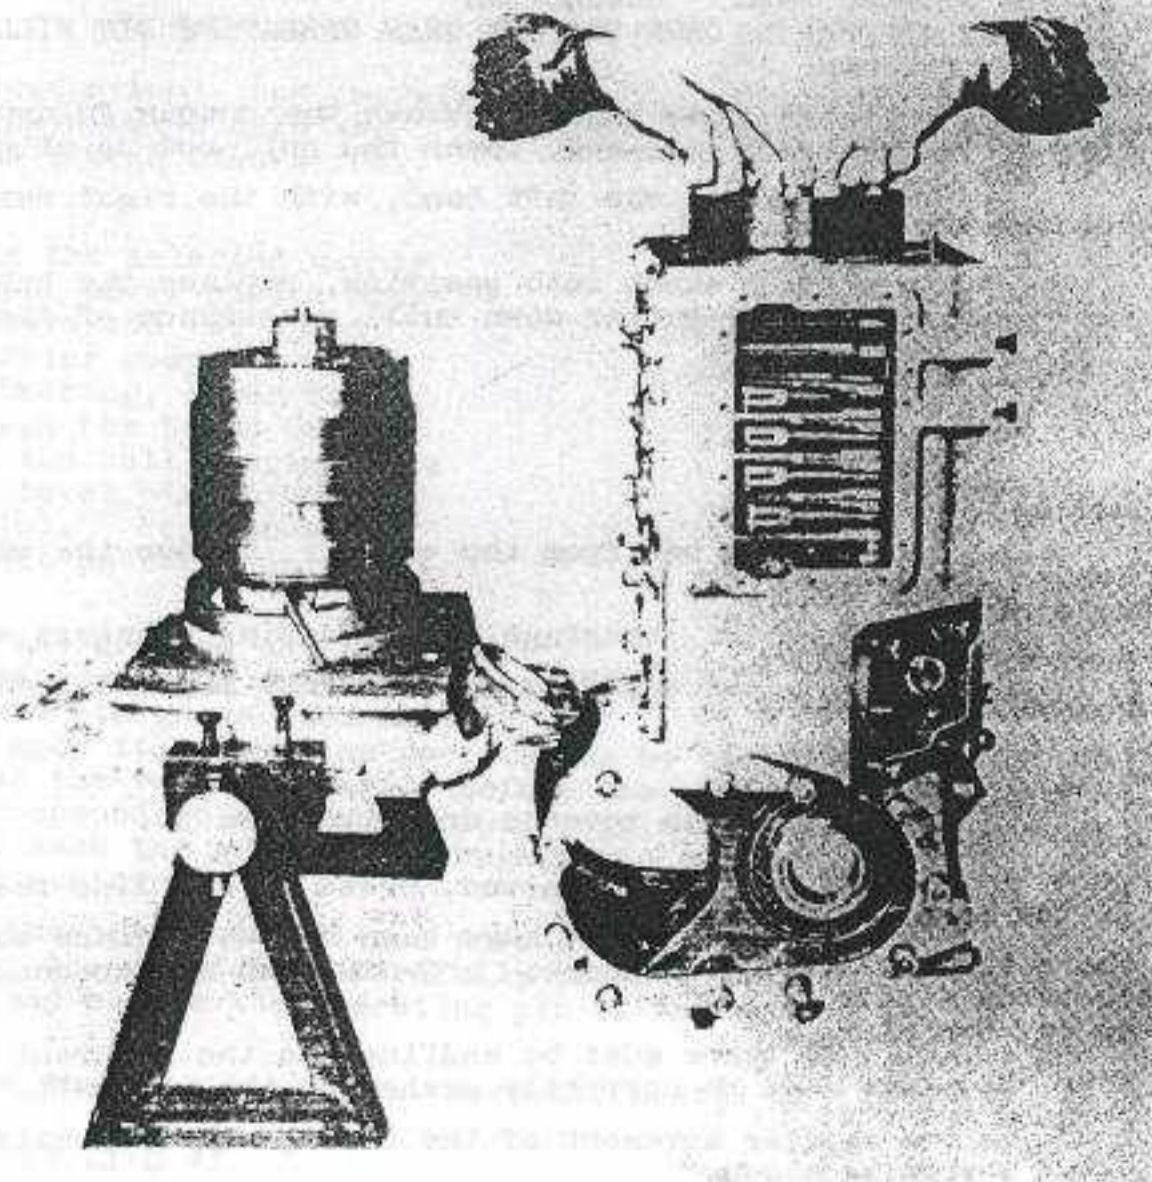

FIG 16 - GEARBOX - ASSEMBLY, FITTING THE 1ST GEAR BRAKE DRUM, BALL BEARING AND PACKING WASHER
c. Place the selected washer in the input bevel pinion housing. Remove the 1st speed planet carrier complete with its ball bearing, lower this down through the brake bands and press the ball bearing into the input bevel pinion housing (see fig 16). Replace the driven shaft on the running gear.